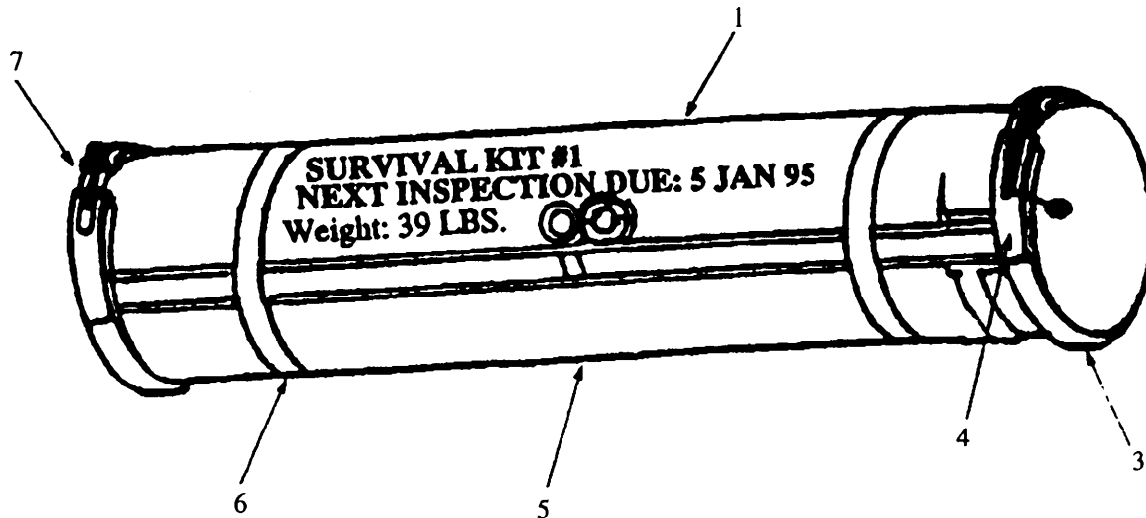

Figure 1-2. AMSS TOW Tube Container
- c. The AH-1 survival kit is contained in an expended TOW missile tube (1, Figure 1-2). The ends (2) are capped by locally fabricated metal discs secured to the tube ends with Marmon clamps (3 & 7). A lead-sealed safety wire (4) is attached to the forward marmon clamp. "Survival Kit" #, Next Inspection Due, and Weight is stenciled on the outboard side (5) of the TOW Tube. A chemical contamination detector (6) is used only during wartime conditions and in war zone areas.